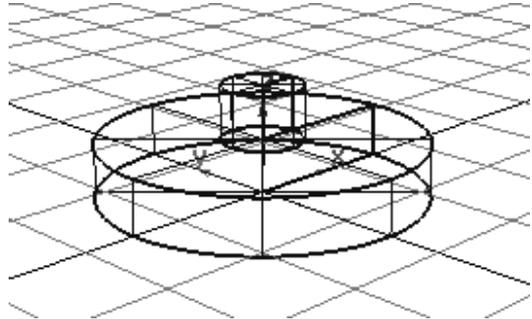

Figure 2-101 Model after scaling the stand
2. Enter **75, 75, 50** in the promptline; the stand is scaled, as shown in Figure 2-101.